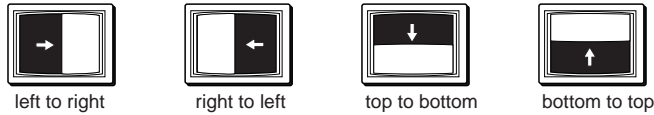

Figure 3-3 — Standard wipe transitions
- A standard wipe causes the preview image to appear to unroll over the program image horizontally or vertically. A standard wipe can have either hard (sharp) or soft (fuzzy) edges. The preview image can have the following transitions (figure 3-3 on the next page):